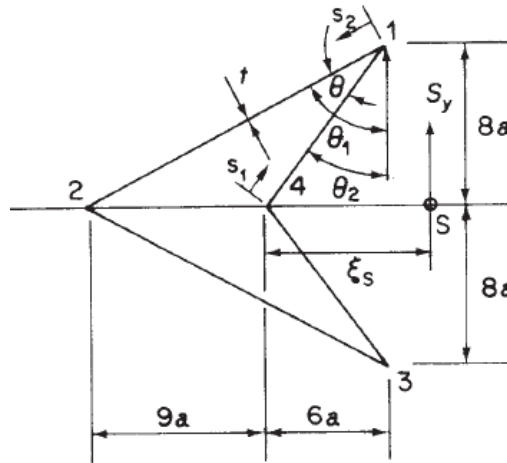

Fig.3
- 3 A thin-walled closed section beam has the singly symmetrical cross-section shown in Fig.3. Each wall of the section is flat and has the same thickness t and shear modulus G . Calculate the distance of the shear center from point 4. 20